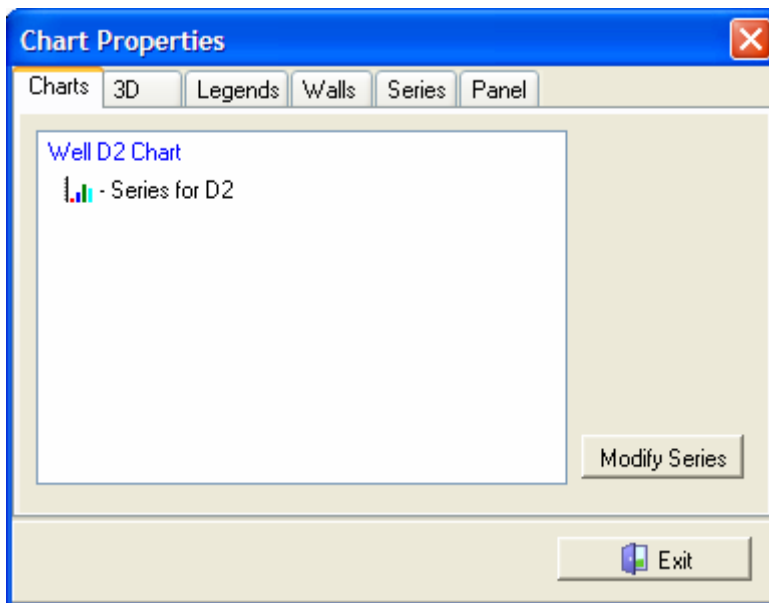

Figure 7.20 Chart Properties dialog box
⇒ The Chart Properties dialog box appears and displays a list of the charts in the Data Chart window (Figure 7.20).
1. To view the available multi-well chart formats, click **Modify Series** (Figure 7.20).